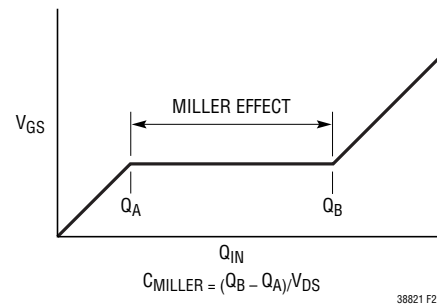

Figure 21. Typical MOSFET Gate Charge Curve
4. Gate drive current is equal to the sum of the top and bottom MOSFET gate charges multiplied by the frequency of operation. These charges are based on the gate voltage applied by the FET driver and can be determined from manufacturer curves like the one shown in Figure 21. Many driver ICs employ asymmetrical gate voltages for top and bottom FETs.
For maximum efficiency,  $R_{DS(ON)}$  and  $Q_G$  should be minimized. Low  $R_{DS(ON)}$  minimizes conduction losses and low  $Q_G$  minimizes switching and transition losses. MOSFET gate charge can be taken from the typical gate charge curve included on most data sheets (Figure 21).
$C_{MILLER}$  is the most important selection criteria for determining the transition loss term in the top MOSFET but is not directly specified on MOSFET data sheets.  $C_{MILLER}$  is equal to the increase in gate charge along the horizontal axis of Figure 21 while the curve is approximately flat, divided by the specified change in  $V_{DS}$ . This result is then multiplied by the ratio of the actual application  $V_{DS}$  to the  $V_{DS}$  specified on the gate charge curve. When the controller is operating in continuous mode the duty cycles for the top and bottom MOSFETs are given by: